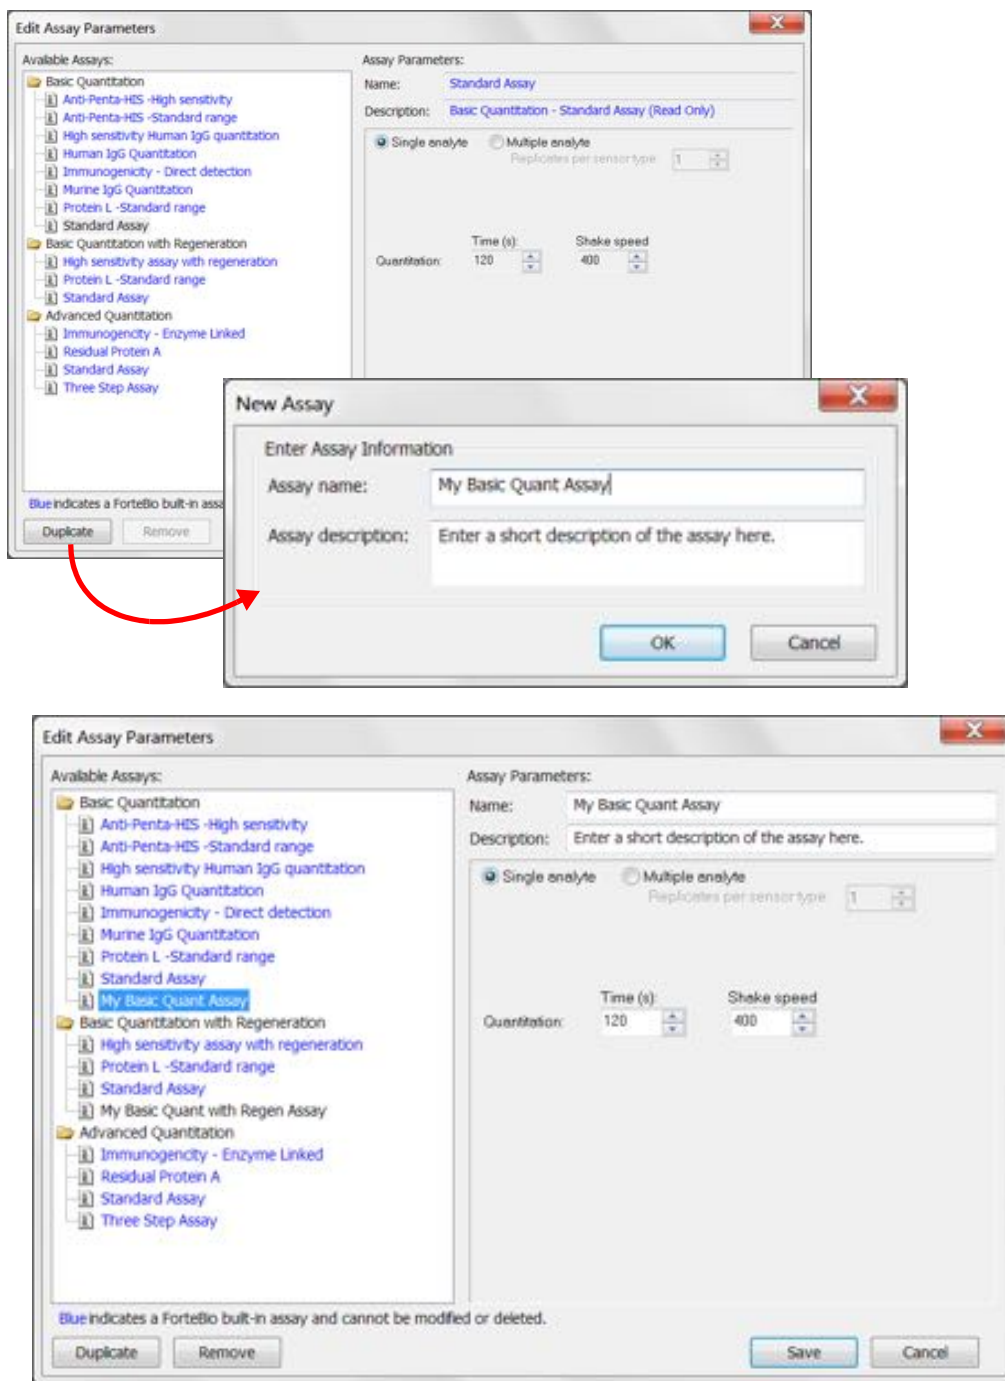

Figure 7-77: Defining a New Assay
4. In the **New Assay** dialog box (see Figure 7-77 top), enter an **Assay name**.
The new assay appears in the directory tree of available assays (see Figure 7-77 bottom).
1. In the **Edit Assay Parameters** dialog box, confirm that the new assay is selected in **Available Assays** (see Figure 7-77 bottom).